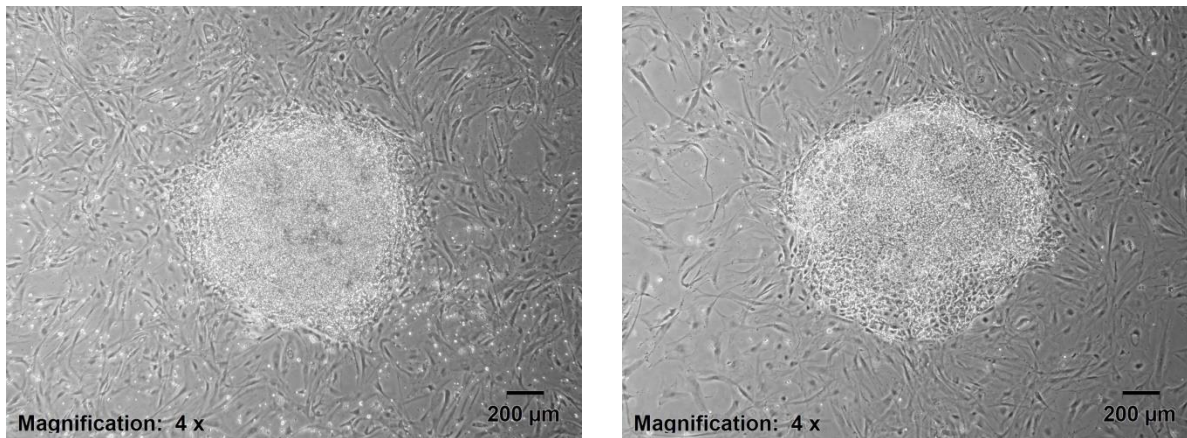

Figure 5. Representative AlphaSTEM™ hiPSC clones 21 days post-transduction. These colonies are ready to be picked for clone expansion.
3. Days 9 - 28 post-reprogramming: Feed cells every 24 hours, and check for colony formation every other day. Colony picking during the third week is optimal (See Figure 5).